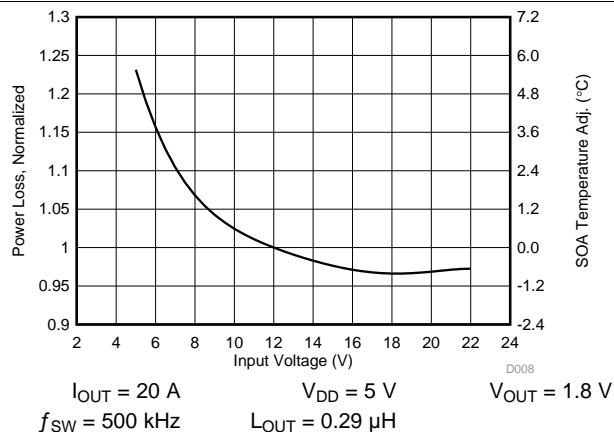

Figure 10. Normalized Power Loss vs Input Voltage
- Normalized Power Loss for input voltage ≈ 1.10 (Figure 10)
- SOA adjustment for input voltage $\approx 2.5^\circ\text{C}$ (Figure 10)